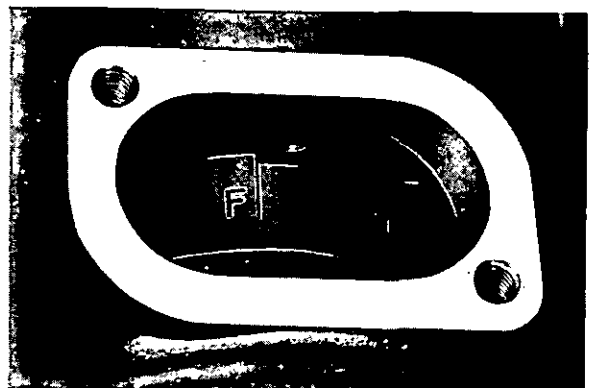

Fig. M.15. Static Timing Mark—Later Fuel Pumps.
**Note:** On later engines the scribed line on the circlip has been deleted. On these engines the scribed line on the rotor should be aligned with the end of the circlip which has a straight edge (Fig. M.15).